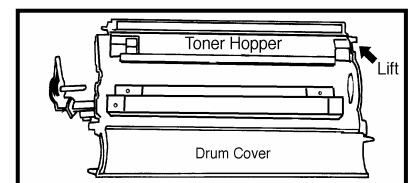

Figure 5
9. Remove the toner hopper from the cartridge shell (Fig. 5). Clean the hopper of all old toner.